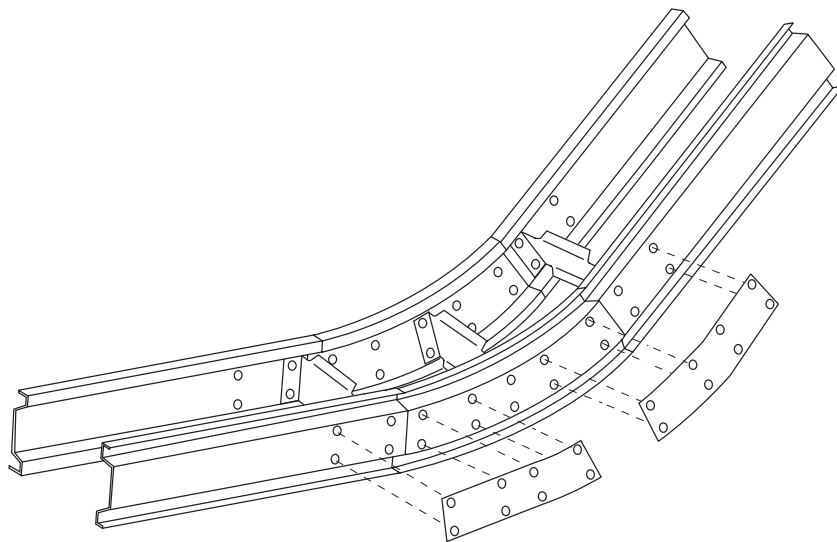

**Figure 65**
*Figure 65* illustrates how horizontal bends connect to straight bed sections.